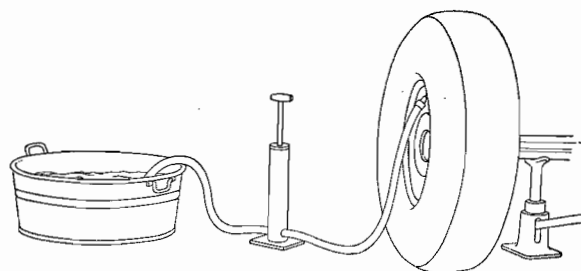

Fig. 26.
2. Hand Force Pump; taking liquid from open container and forcing through the hose and valve adapter into the tube. See Fig. 26.